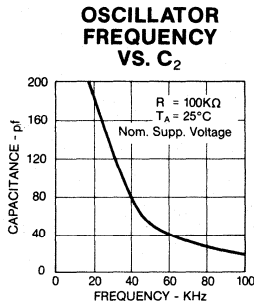

Fig. 6
** R2 (100KΩ), C2 (50pf) provide 50KHz clock frequency (see figure 6)